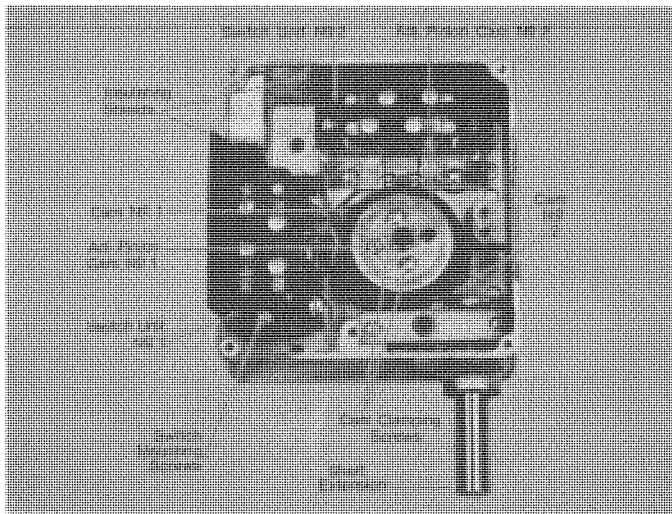

Figure 1. Rotary limit switch
The CR9441E rotary limit switch is designed to coordinate reversing operations with the number of revolutions of a motor shaft or the rotation of driven equipment. Typical applications include control of limits of travel of machinery, opening and closing of doors and windows, operation of valves and various sequencing operations. The internal components of the device are shown in Figure 1 and are the same for all forms.
3. Loosen the two cam clamping screws on top of the cam assembly one quarter turn each (See Figure 1).